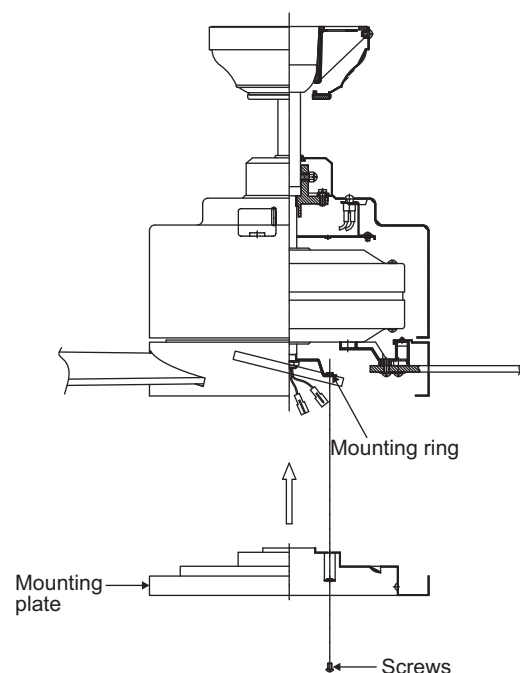

Figure 18
2. Place the key holes on the light kit over the 2 screws previously loosened from the mounting ring, turn mounting plate until it locks in place at the narrow section of the key holes. Secure by tightening the 2 screws previously loosened and the one previously removed. (Fig. 18)